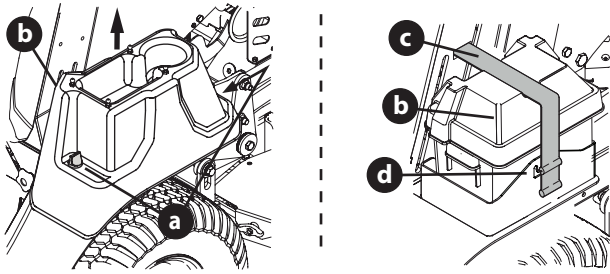

Fig. 22
- Mowers with 48, 54 or 60 Inch Decks - Remove the two thumb screws (a) securing the battery cover (b) to the right fender. Lift up to remove the battery cover (Fig. 22 on page 20).
- Mowers with 36 Inch Decks - Unhook the rubber strap (c) securing the battery cover (b) to the battery tray (d). Lift up to remove the battery cover (Fig. 22).